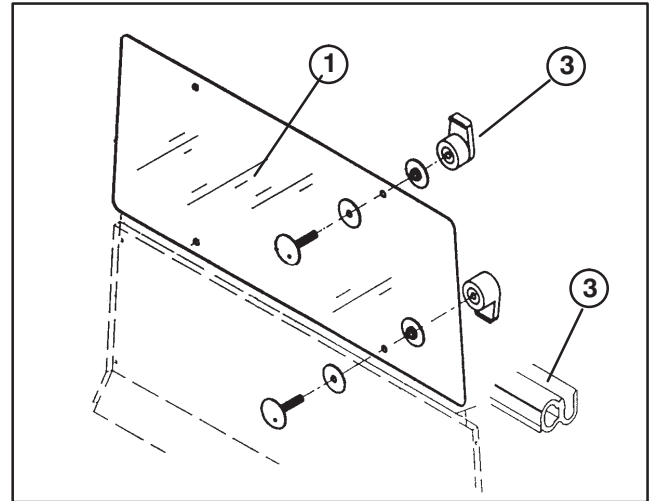

Figure 15
49. Loosely install a glass fastener to each hole in rear window with a screw and (2) washers (Fig. 15). Fasteners to mounted with the hook to the inside.
50. Insert window onto weather-strip seal of rear opening. Rotate fastener hooks over weather-strip seal and tighten screw finger tight (Fig. 15).